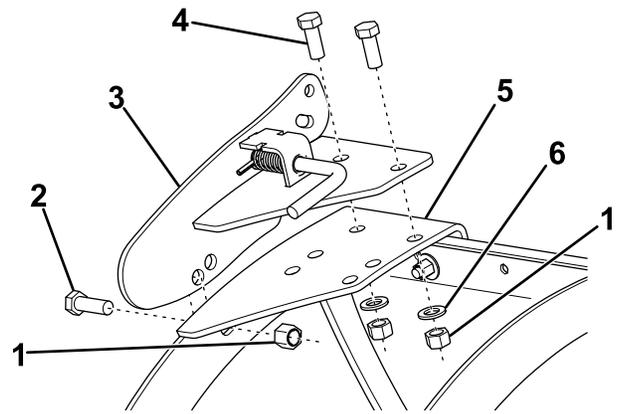

Figure 16
6. Loosely attach the spring bracket to the spring bracket base-plate using 2 bolts (1/2 x 1-1/4 inches), washers, and locknuts (Figure 16).
7. Loosely attach the spring bracket to the side of the plow using a bolt (1/2 x 1-1/2 inches) and locknut (Figure 16).